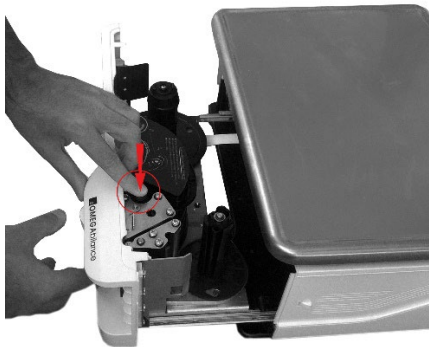

fig. 2
- Raise the print head by pressing the indicated key (**fig. 2**)